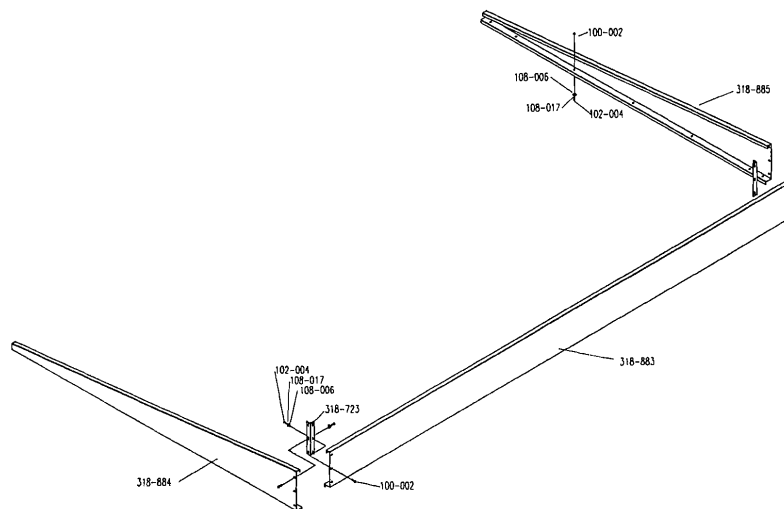

**FIGURE 13: EXTENSIONS FOR
1. See Figure 13. Carefully position left hand extension (26" deep for 897, 16" deep on 797) in place on auger side of tub and loosely secure with 5/16" x 3/4" carriage bolts washers and nuts from bottom up through tub and extension mounting surfaces.